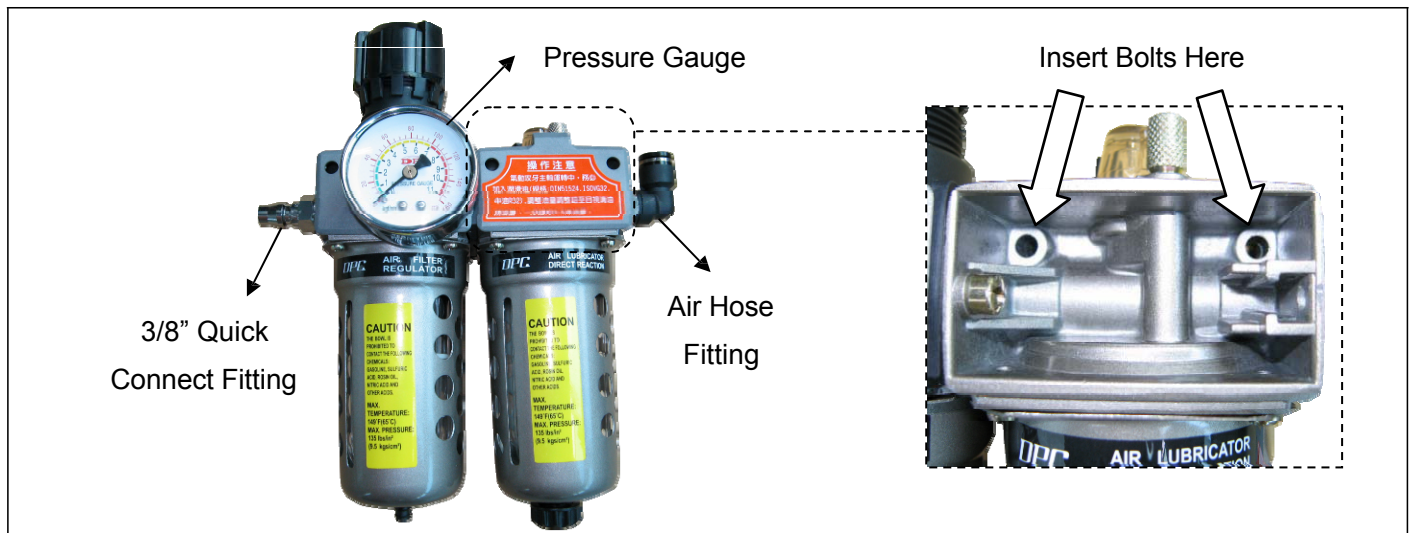

Figure 7-6
- (1) Attach pressure gauge, 3/8" quick connect and air hose fitting (see Figure 7-6).
- (2) Remove front cover of air unit body by lifting tab at top of cover and insert the two mounting bolts as Figure 7-6